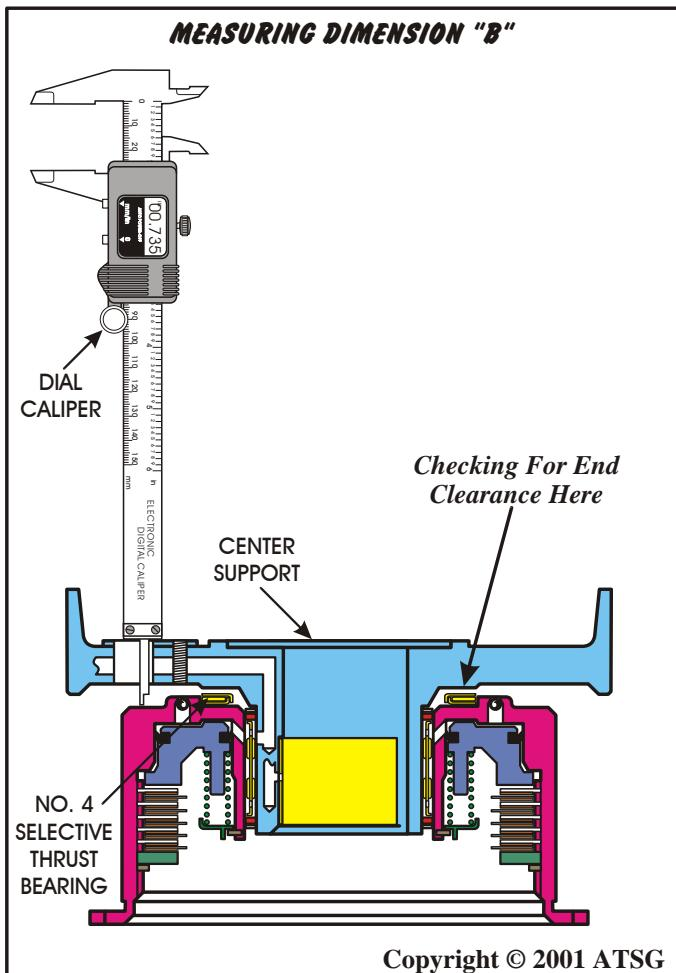

Figure 160
42. Now we must once again measure with the dial caliper through the speed sensor hole down to the surface of the direct clutch housing with all of the parts installed in the case, as shown in Figure 160, *and record this as dimension "B"*.